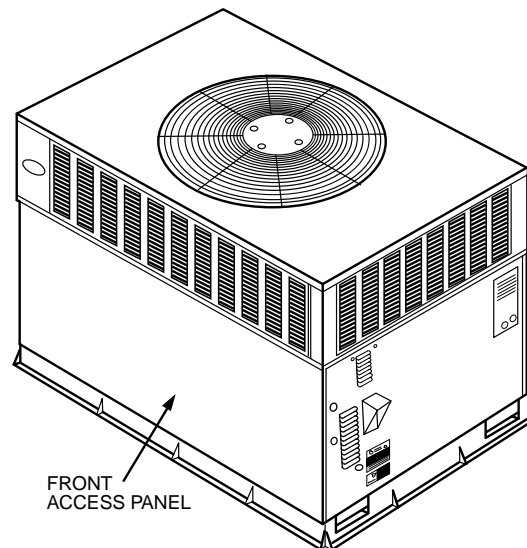

Fig. 2—Gas Heating/Electric Cooling Unit Front Access Panel
3. Using a flashlight, carefully inspect the burner areas for dirt, soot, rust, or scale. See Fig. 2